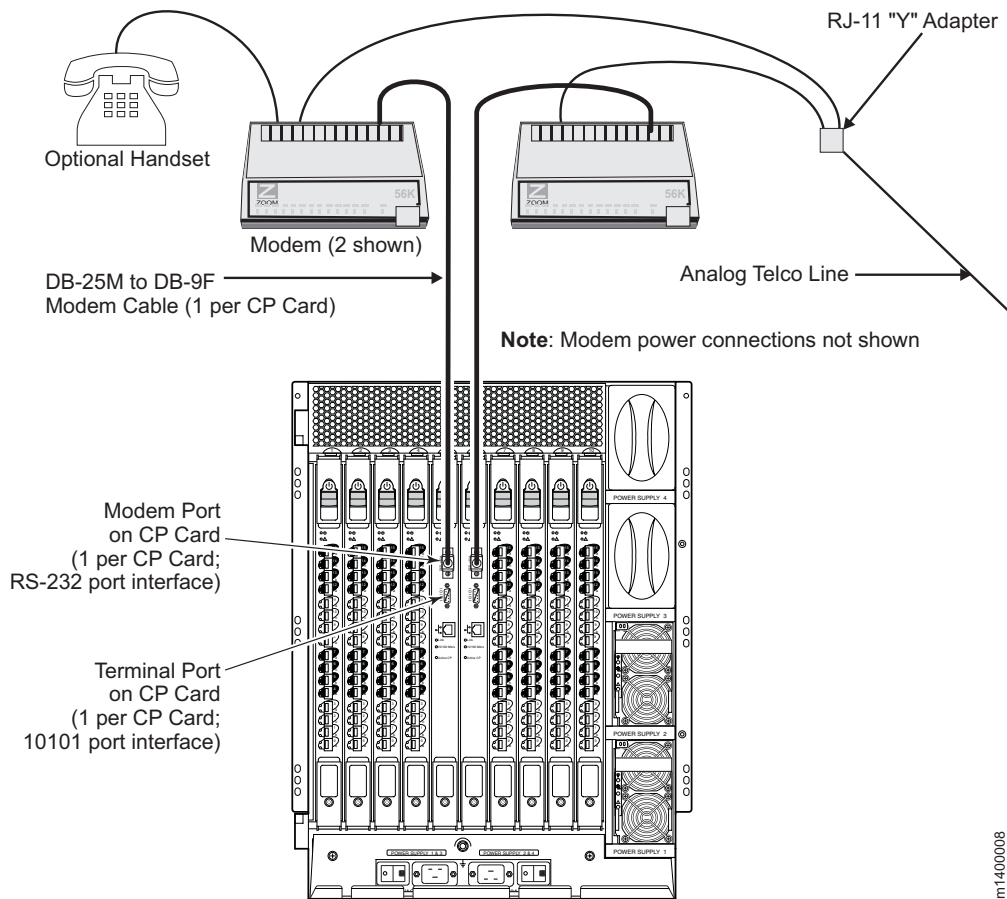

Figure 49. Two modems attached for high availability
High availability of the modem connection can be ensured by connecting a separate modem to each CP card and then connecting both modems to a shared telephone line (see Figure 49 on page 104). This ensures an available telephone connection to the active CP card even if a failover occurs; however, it is necessary to log back in after a failover. When both CP cards are connected to a shared telephone line, callers are automatically dialed in to the active CP card, which answers on the first ring. If the active CP card cannot answer for any reason, the standby CP card answers on the seventh ring and allows login to proceed.
Note: If a modem connection is set up, connect a modem to each CP card. See Figure 49 on page 104
- Connect the modem cables to the modems and to the Model M14 RS–232 modem ports. See Figure 49 on page 104.
- Optionally connect a telephone handset to one of the “phone” connections on the modems. See Figure 49 on page 104.
10. Remove the Telco connector from the active CP card modem, leaving the Telco line from the standby CP card connected to the “Y” connector. See Figure 49 on page 104.